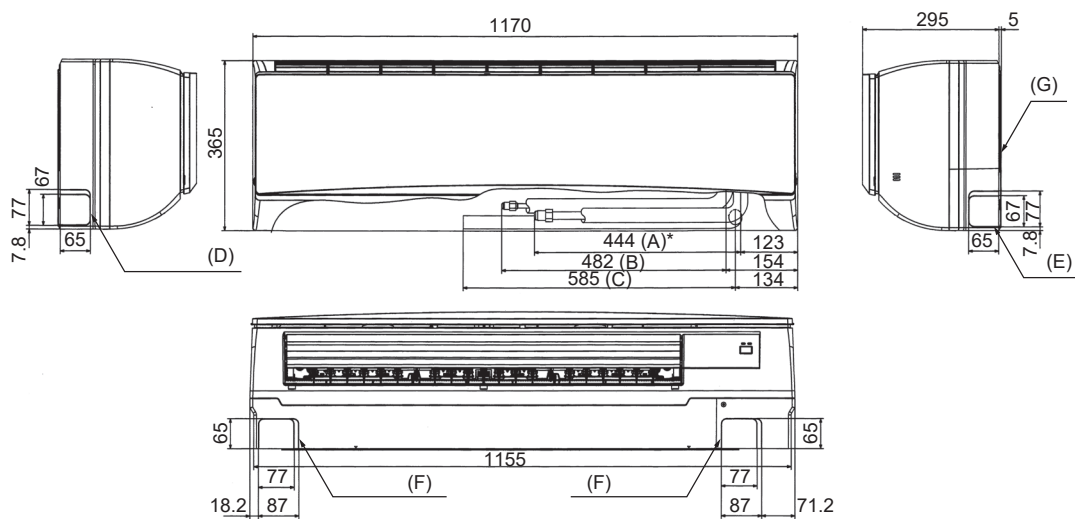
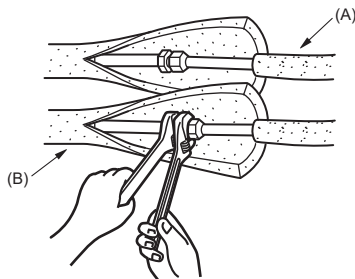

Fig. 4-3
Fig. 4-4
4.4. Positioning refrigerant and drain piping (Fig. 4-3)
- (A) Gas pipe
- (B) Liquid pipe
- (C) Drain hose
- (D) Left-side piping knockout hole
- (E) Right-side piping knockout hole
- (F) Lower piping knockout hole
- (G) Mount board (1)
4.5. Refrigerant piping (Fig. 4-4)